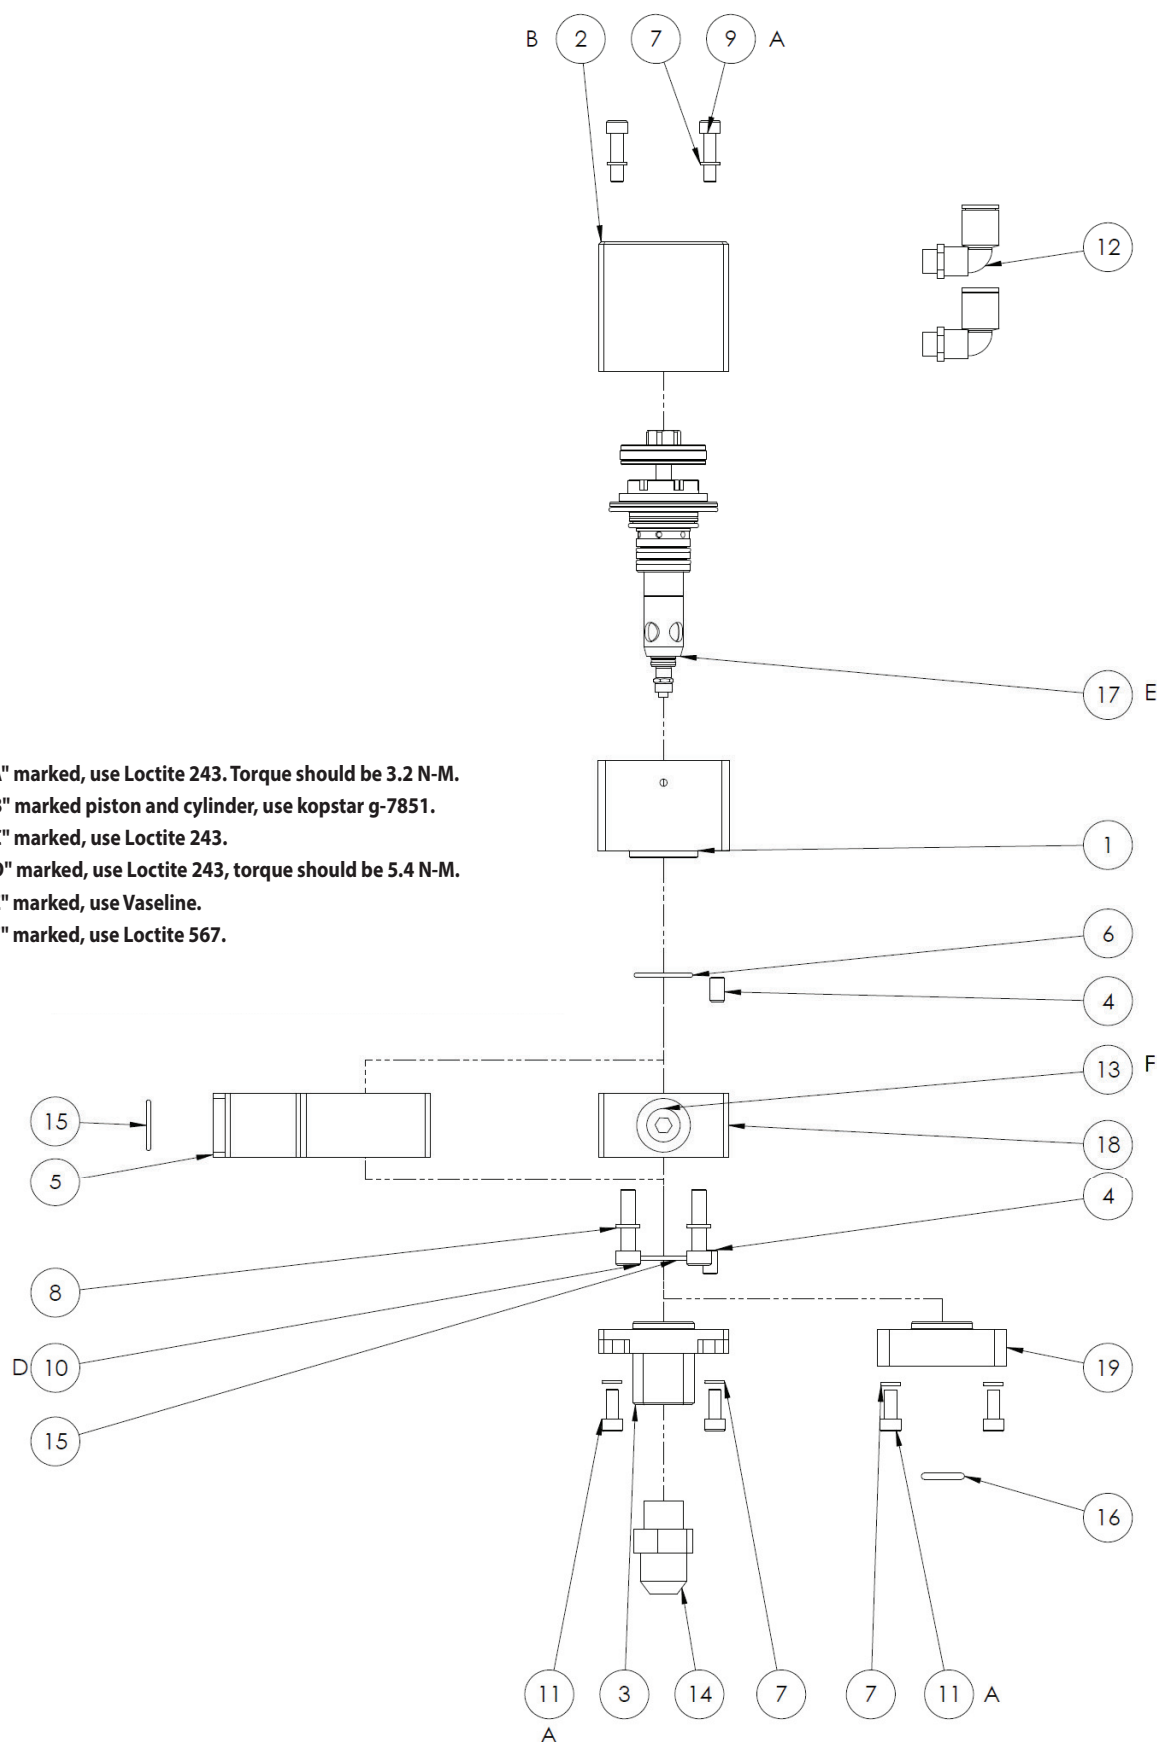

Figure 1
- As shown in Figure 1, remove the No. 3 glue outlet of the SBV3-L-000 and SBV3-L-M20-000 glue valves. When removing the No. 19 flange outlet of the SBV3-L-M20-I-000 valve, pay attention to the No. 16 O-ring (this O-ring is not included in the repair kit).
Whenever the repair kit is replaced, it needs to be assembled according to the assembly requirements in the box in Figure 1.